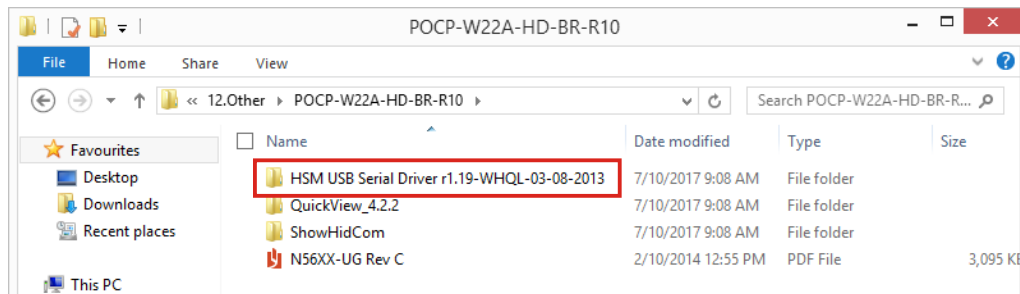

Figure 5-30: Barcode Reader Driver Folder
Step 1: Select **Other** from the list of the driver CD. Double click the **Install_x86.bat** file (or **Install_x64.bat** for 64-bit OS) in the **POCP-W22A-HD-BR-R10** folder shown in **Figure 5-30** to install the barcode reader driver.